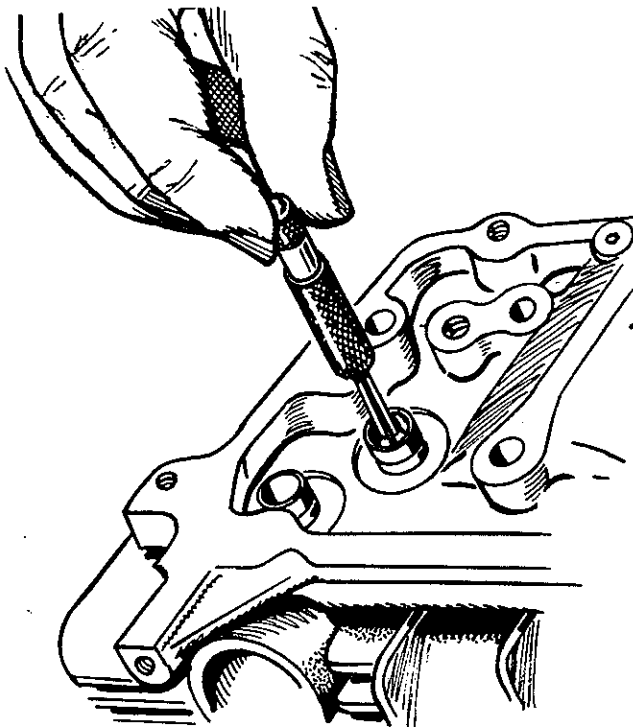

FIGURE 15-6. MEASURING VALVE GUIDE INNER DIAMETER
8. Check valve guide to valve stem clearance, Figure 15-6.